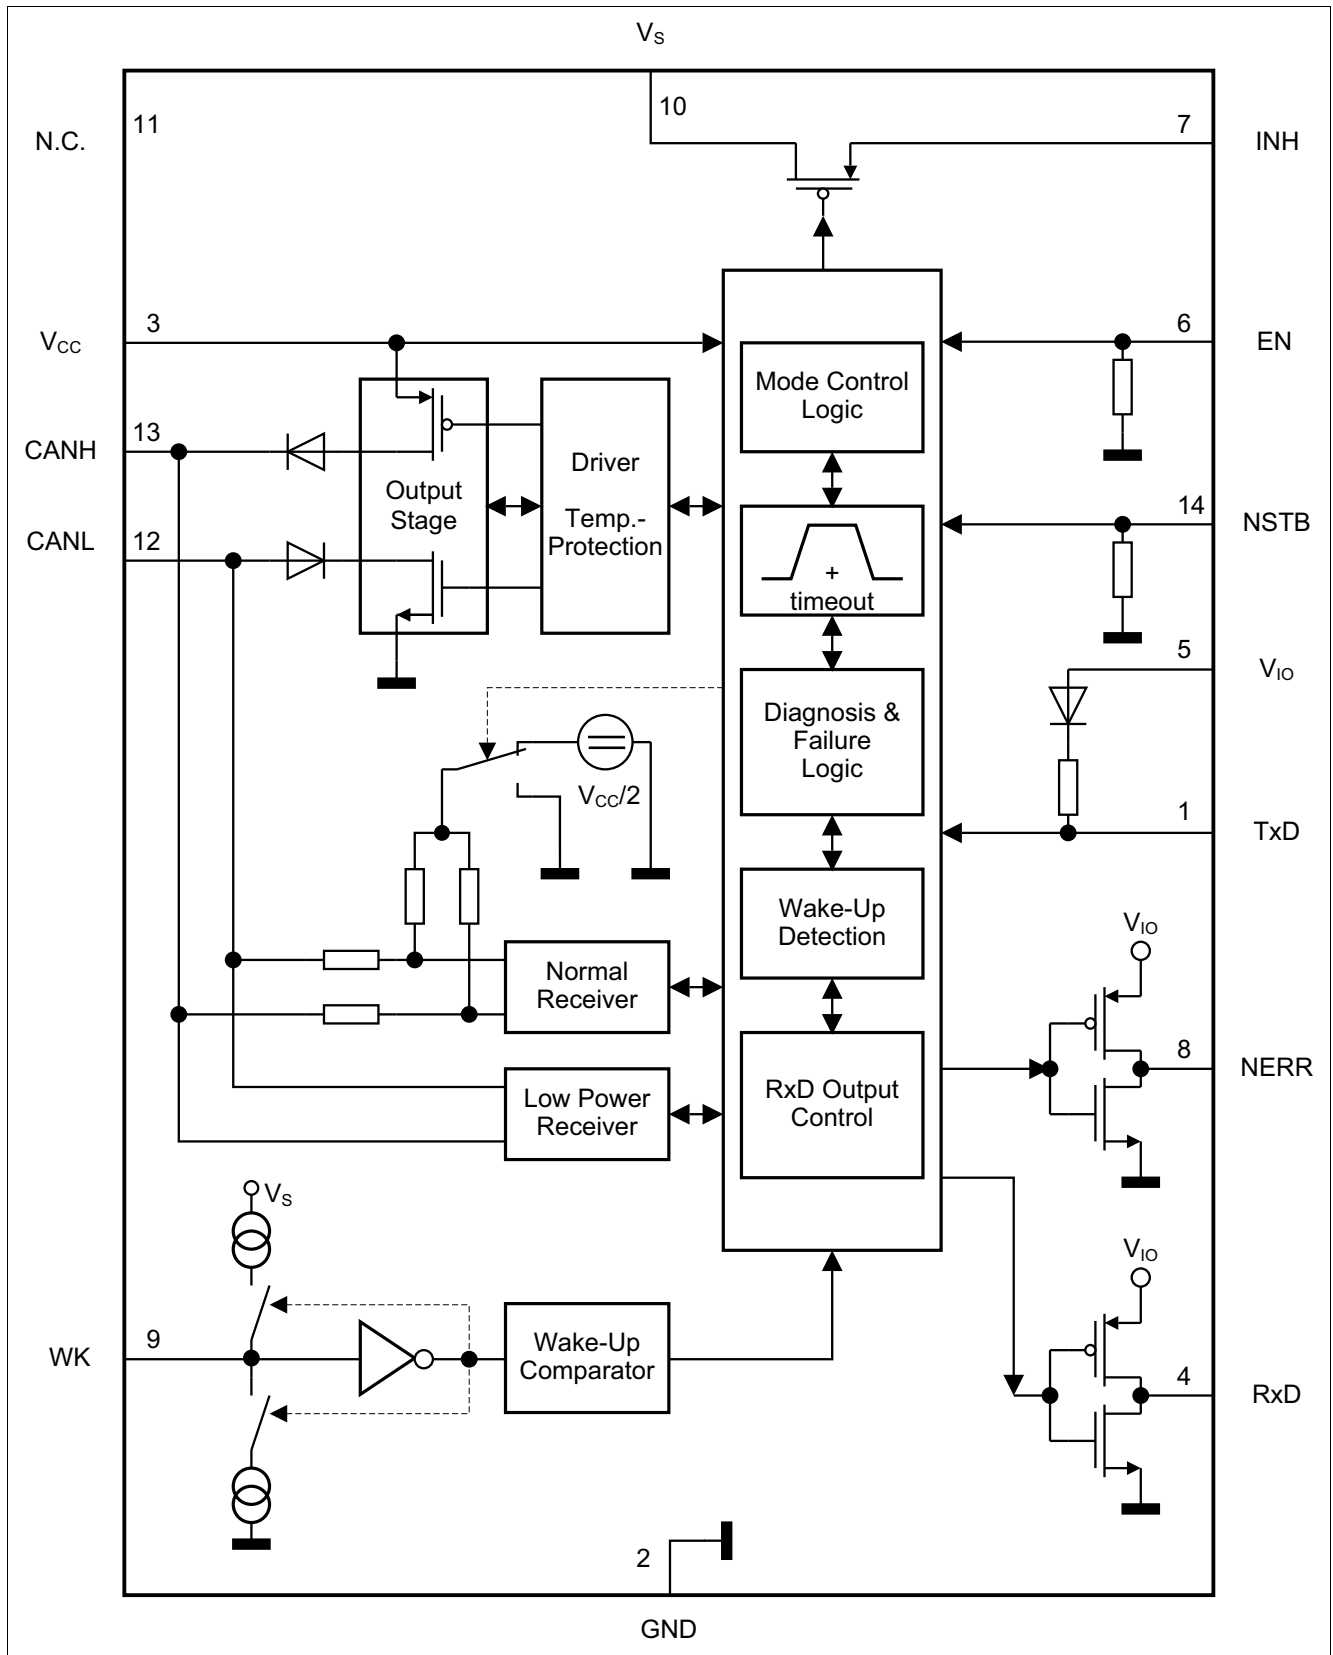
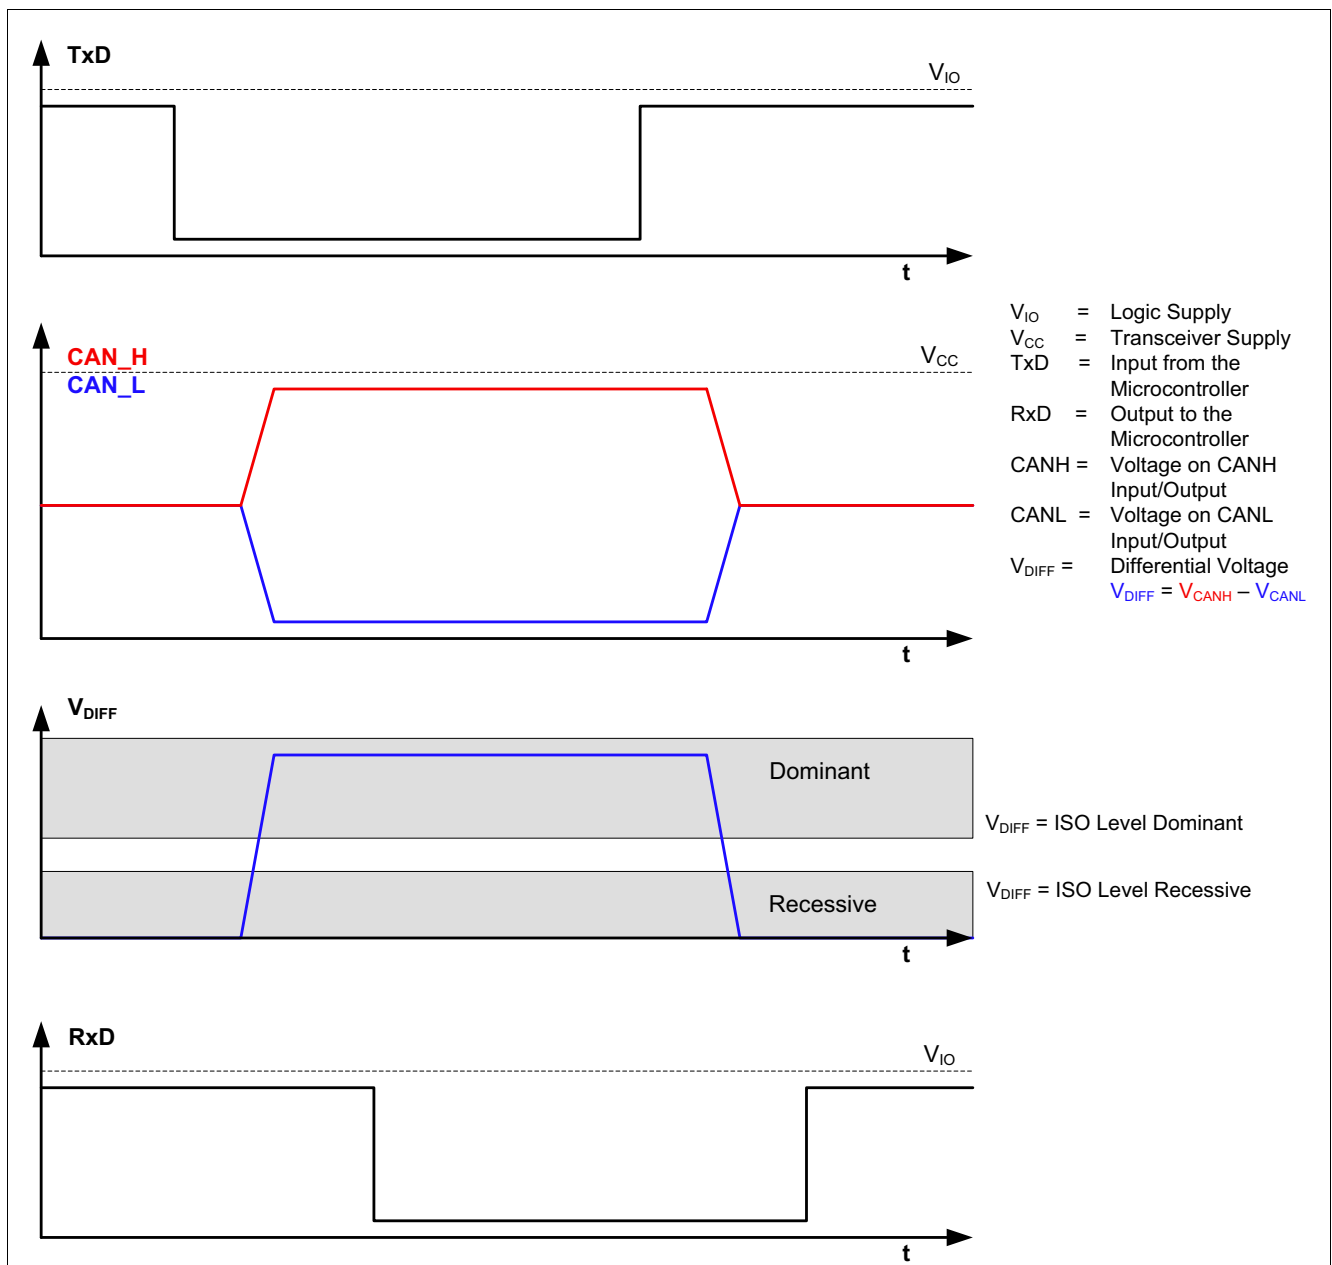

Figure 1 Block Diagram
Figure 3 High Speed CAN Bus Signals and Logic Signals
The TLE6251-3G is a High Speed CAN transceiver, operating as an interface between the CAN controller and the physical bus medium. A High Speed CAN network (abbreviated HS CAN) is a two wire differential network which allows data transmission rates up to 1 MBaud. Characteristic for a HS CAN network are the two CAN bus states dominant and recessive (see Figure 3).
The input TxD and the output RxD are connected to the microcontroller of the ECU. As shown in Figure 1, the HS CAN transceiver TLE6251-3G has a receive unit and a output stage, allowing the transceiver to send data to the bus medium and monitor the data from the bus medium at the same time. The HS CAN TLE6251-3G converts the serial data stream available on the transmit data input TxD into a differential output signal on CAN bus. The differential output signal is provided by the pins CANH and CANL. The receiver stage of the TLE6251-3G monitors the data on the CAN bus and converts them to a serial data stream on the RxD pin. A “low” signal on the TxD pin creates a dominant signal on the CAN bus, followed by a “low” signal on the RxD pin (see Figure 3). The feature, broadcasting data to the CAN bus and listening to the data traffic on the CAN bus simultaneous is essential to support the bit to bit arbitration on CAN networks.
- Through the internal resistors  $R_I$  (see Figure 1), the pins CANH and CANL are connected to GND.